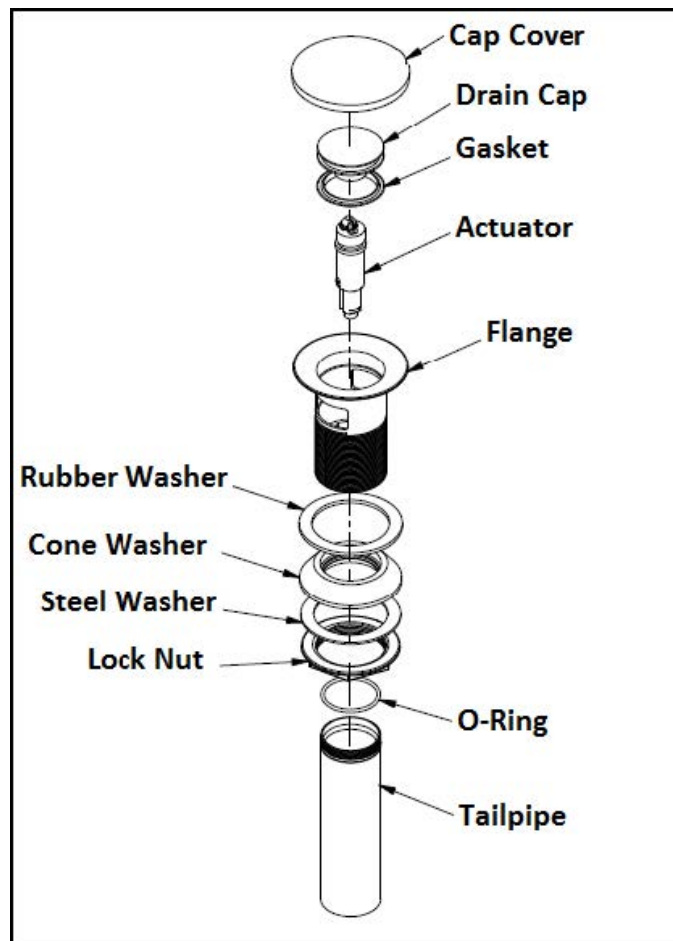
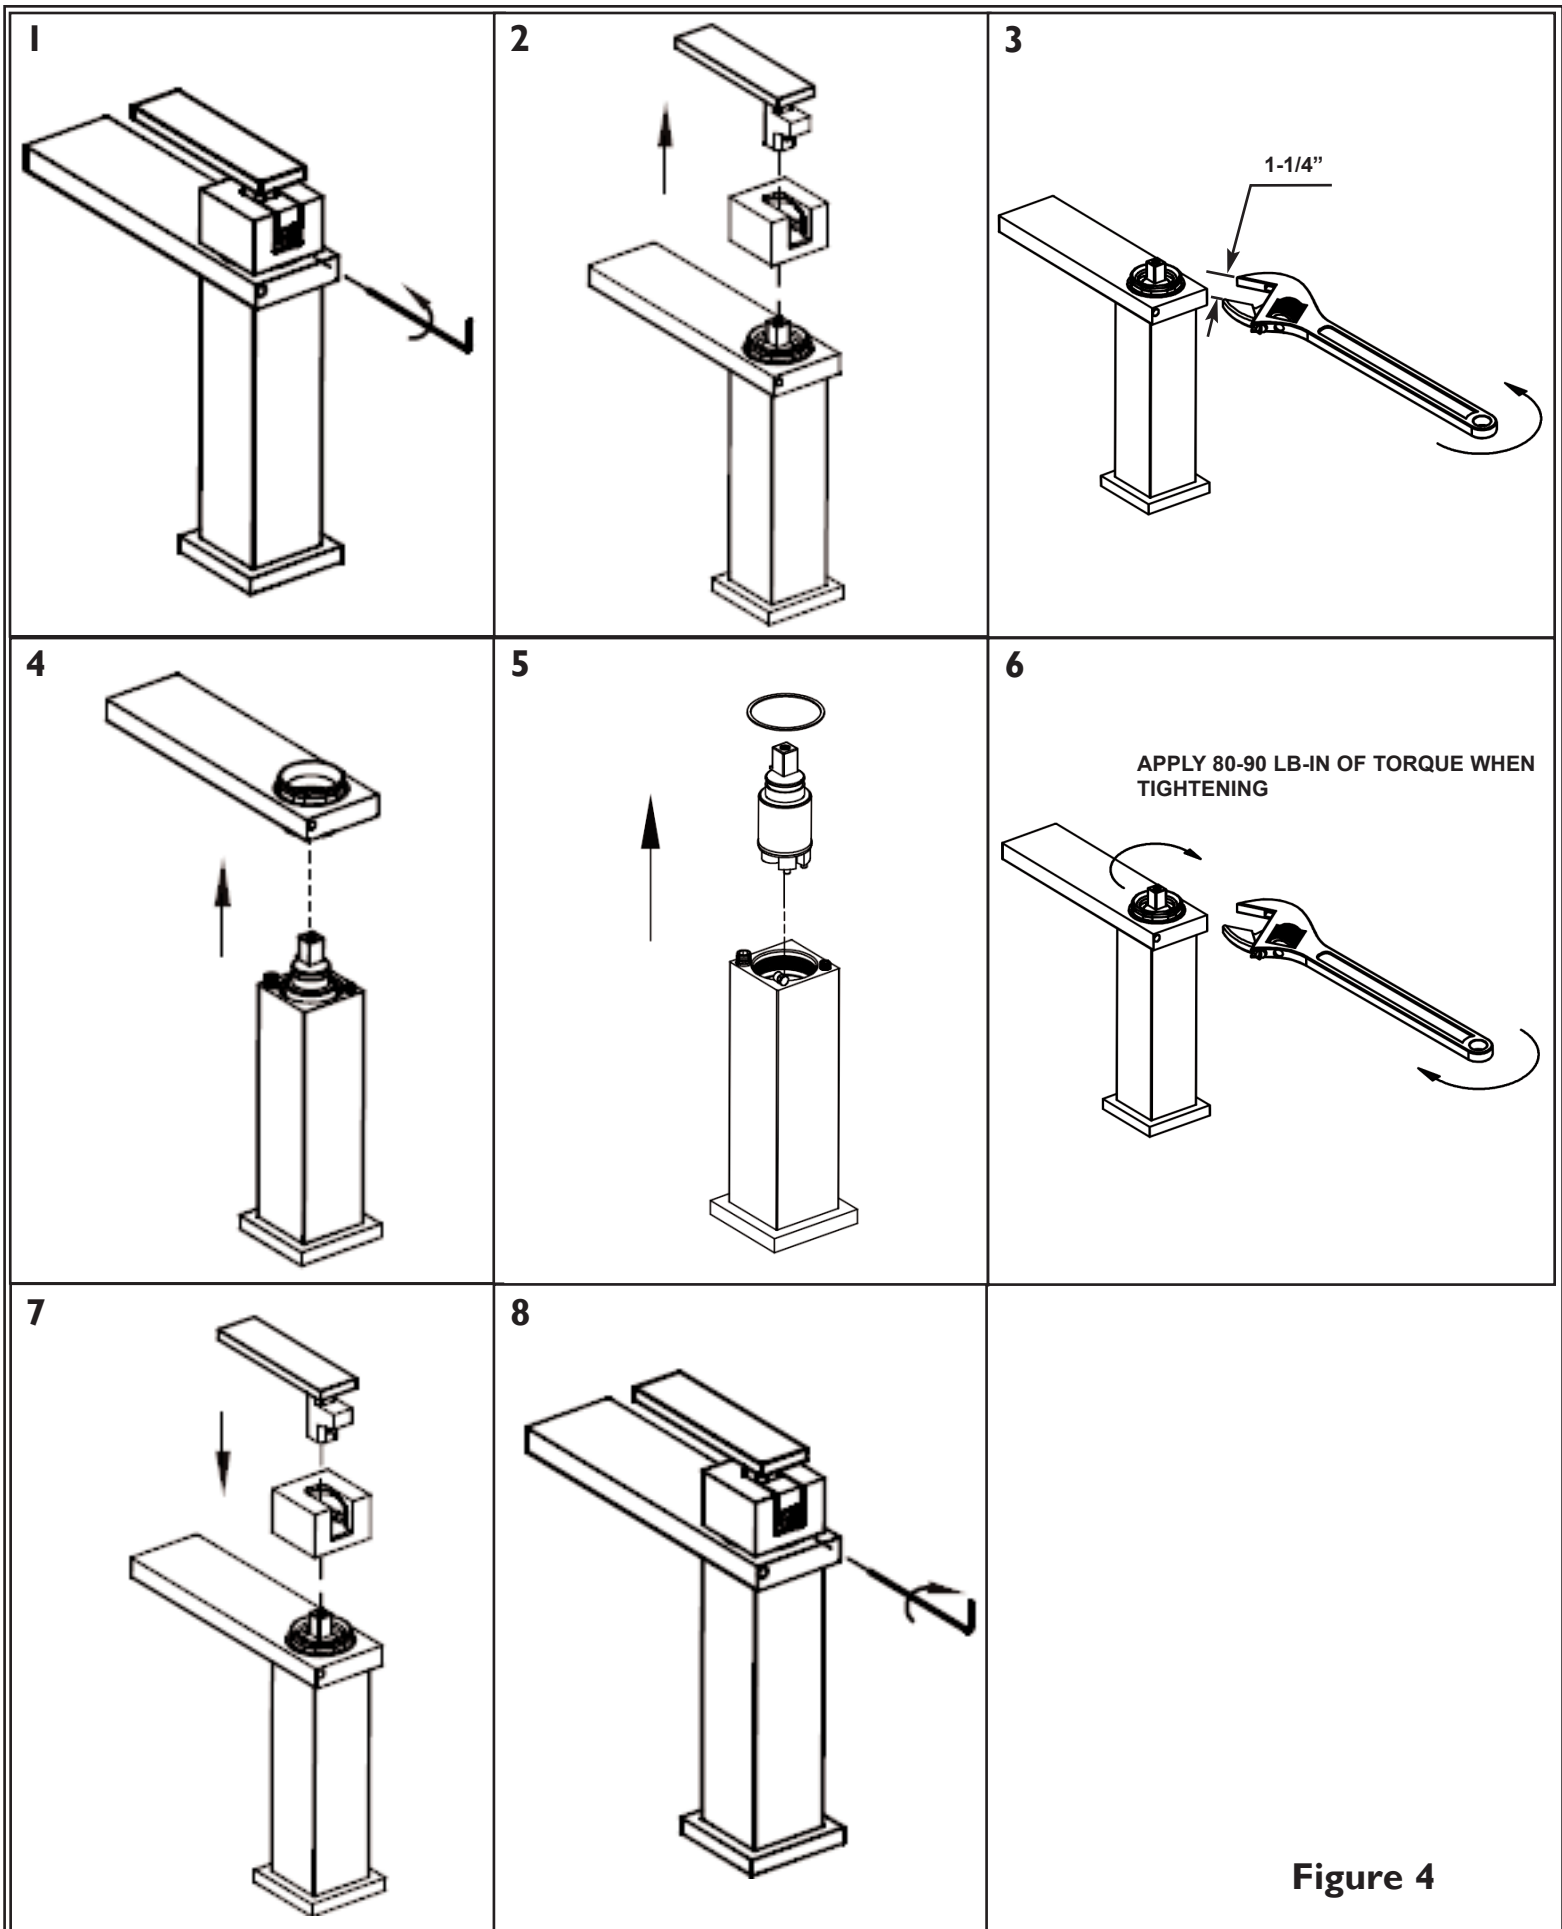

Figure 3
Figure 4
3. Drain assembly not included with I203-1. Remove FLANGE, RUBBER WASHER, STEEL WASHER, and discard drain CAP COVER from drain assembly. Place RUBBER WASHER into FLANGE. Then, place FLANGE through the sink hole (Clear silicone may be used in place of RUBBER WASHER). From underside of sink, install CONE WASHER, STEEL WASHER, and LOCK NUT into FLANGE. Thread LOCK NUT firmly. Thread TAILPIPE to FLANGE assembly and assemble TAILPIPE to existing P-Trap. **See Figure 3.**
4. Remove FLOW RESTRICTOR (13) from spout. Turn on water supply, and flush system until water is clear. Check for leaks and make any final adjustments required. Re-attach FLOW RESTRICTOR (13) to the spout.
5. Cartridge replacement - **See Figure 4.**